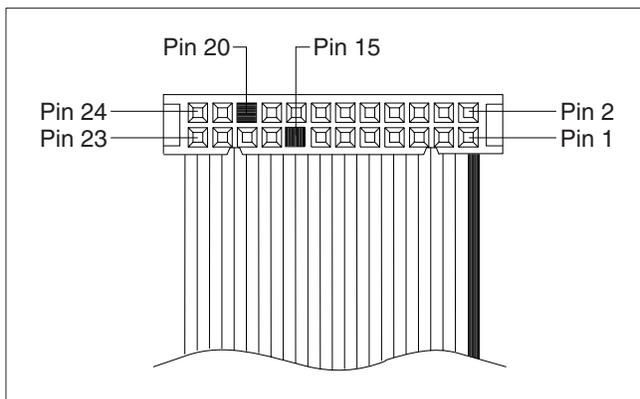

Figure 6-31. Extension Card Cable Connector
- Disconnect the extension card cable from J2 on the printer card. See Figure 6-38 on page 6-65 for the locations of the printer card connections. See Figure 6-31 for the locations of the cable connector pins.